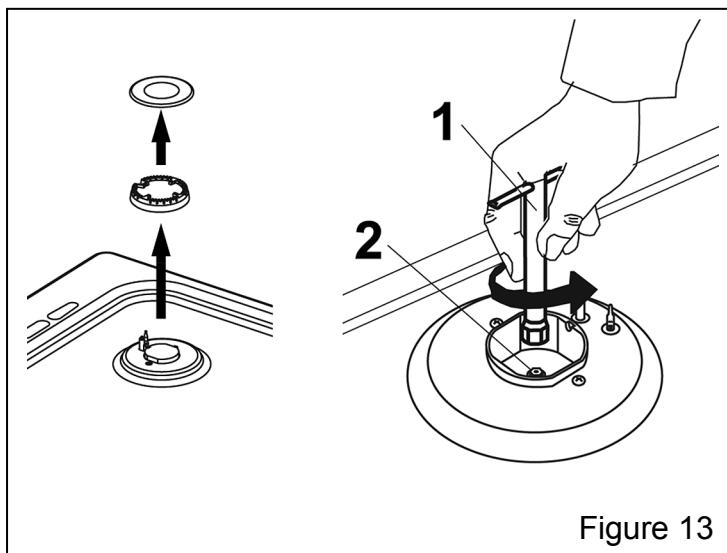

Figure 13
3. With adequate key (1) remove the existing nozzles (2) (Figure 13) and install the nozzles suitable for the available gas type (see Table 5 - Nozzles). Each nozzle has its code number indicating the nozzle diameter in hundredths of millimetre.